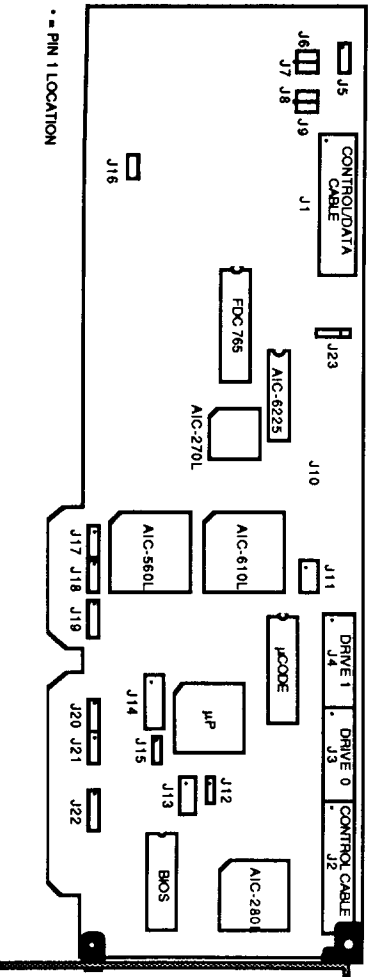

FIGURE 2-1. BOARD LAYOUT
The ACB-2372 is shown in Figure 2-1. This figure shows the location of the controller microcode, ACB-BIOS, jumpers and connectors. Note that Pin 1 of the connectors is identified by a square solder pad on the solder side of the board. The dimensions of the board are:
*Note: Jumper positions and pin numbers are defined from left to right, or top to bottom, where applicable per Figure 2-1. An asterisk (\*) denotes jumpers that are installed for a standard configuration.*